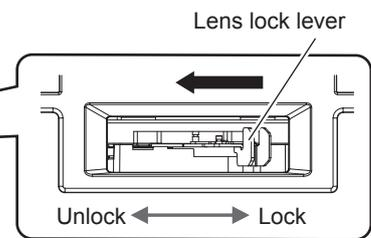

Fig. 3
- 3) **Confirm that the lens lock lever is positioned at the Unlock side. (Fig. 3)**
- If the lens lock lever is at the Lock side (Fig. 5), pinch the lens lock lever and turn to the Unlock side. (Fig. 3)
- 3) **While holding the projection lens, pinch the lens lock lever and turn to the Unlock side. (Fig. 3)**